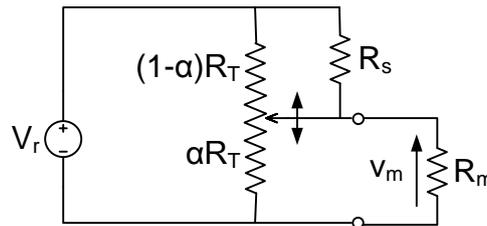

Figure 1: Displacementsensor with processing circuit.
The driver of a car can control the power delivered by the engine through the throttle pedal. When moving this pedal, the driver changes the amount of fuel or the fuel/air mixture. This allows the driver to control the speed of the car. Traditionally, the throttle pedal has been connected with a carburetor valve using a so called bowden cable. Modern cars use a “drive-by-wire” system that replaces this cable with an electric system. These systems use a sensor to sense the position of the throttle pedal. One option would be to use a resistive displacement sensor such as the one shown in Figure 1. This sensor can be used to measure linear displacements of an object. The sensor consists of a variable resistor R_T , a fixed resistor $R_s = R_T/a = 3000 \Omega$ and a constant voltage supply $V_r = 9 \text{ V}$. The sensor is connected to a measurement circuit with a purely resistive impedance $R_m = R_T/b$ with a resistance of 3000Ω (i.e., $a = b$). This measurement load causes a loading error in the output voltage v_m of the sensor.
- (5p) (a) Show that the output voltage v_m of the circuit shown in Figure 1 is equal to: